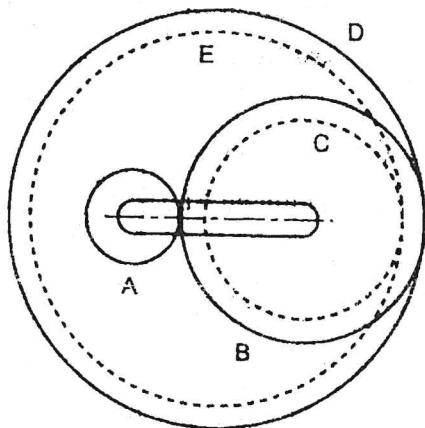

Fig. Q. 14 (b)
b) In an epicyclic gear train shown in Fig. Q. 14 (b), the pinion A has 16 teeth and is rigidly fixed in the motor shaft. The wheel B has 22 teeth and gears with A and also with annular fixed wheel D. Pinion C has 16 teeth and is integral with B (C, B being a compound gear wheel). Gear C meshes with annular wheel E, which is keyed to the machine shaft. The arm rotates about the same shaft on which A is fixed and carries the compound wheel B-C. If the motor runs at 2500 rpm, find the speed of the machine shaft. Also, determine the speed of gears B and D when the arm is fixed and the gear A rotates at 850 rpm.